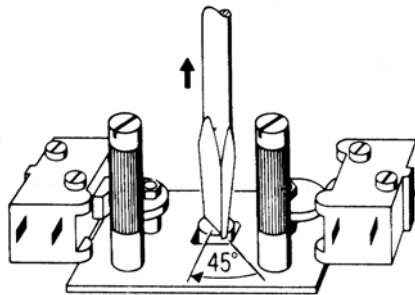

Fig. 3.4.2.1 d: Re-engaging the central drive
- Disengage central drive by pressing down pin 1 (fig. 3.4.2.1 a) and rotating it by 45° (fig. 3.4.2.1 b); central drive is now disengaged (fig. 3.4.1.2 c.).